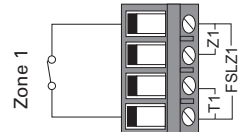

Figure 1. EXP-W10 / Abb. 1. EXP-W10 / Figure 1. EXP-W10 / Figura 1. EXP-W10 / Afbeelding 1. EXP-W10
2. Mount the backplate to the wall (Figure 1).
Connect all wiring to the PCB (Figure 1). See the later sections for connection details.
The following sections provide information about the links, connectors and LEDs shown in Figure 1.
③ Wired zone connections
You can connect up to 10 wired detectors (0 to 9) to the EXP-W10 using the Fully-Supervised Loop (FSL), 4-wire Closed Circuit (CC) or 2-wire CC wiring method (Figure 1). All detectors on the same EXP-W10 must use the same wiring method, but if FSL is used, each detector can have different resistor values.